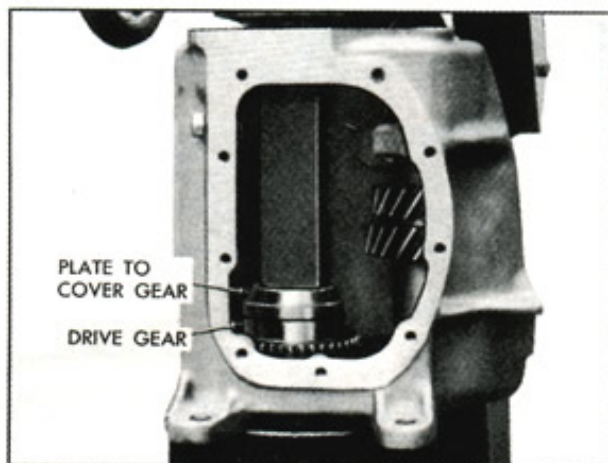

Fig. 20—Installing Drive Gear in Case
4. Support inner race of main bearing, press drive gear into bearing from inside of case (Fig. 20).